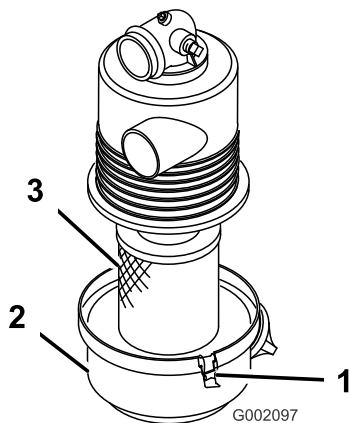

Figure 17
1. Check the air cleaner body for damage, which could possibly cause an air leak. Ensure the cover is sealing around the air cleaner body (Figure 17).
2. Release the latches securing the air-filter cover to the air-filter housing (Figure 17).
3. Separate the air-filter cover from the air-filter housing, and clean the inside of the cover (Figure 17).
3. Insert the air-filter element into air-filter housing (Figure 17).
4. Align the air-cleaner cover with the air-cleaner housing (Figure 17).
- Secure the cover to the housing with the latches (Figure 17).